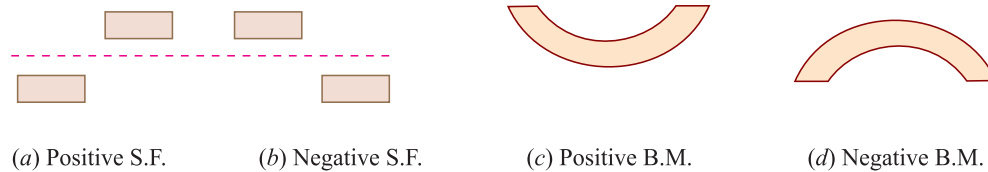

Fig. 13.1
1. Shear Force. We know that as the shear force is the unbalanced vertical force, therefore it tends to slide one portion of the beam, upwards or downwards with respect to the other. The shear force is said to be positive, at a section, when the left hand portion tends to slide downwards or the right hand portion tends to slide upwards shown in Fig. 13.1 (a). Or in other words, all the downward forces to the left of the section cause positive shear and those acting upwards cause negative shear as shown in Fig. 13.1 (a).
Similarly, the shear force, is said to be negative at a section when the left hand portion tends to slide upwards or the right hand portion tends to slide downwards as shown in Fig. 13.1 (b). Or in other words, all the upward forces to the left of the section cause negative shear and those acting downwards cause positive shear as shown in Fig. 13.1 (b).
2. Bending Moment. At sections, where the bending moment, is such that it tends to bend the beam at that point to a curvature having concavity at the top, as shown in Fig. 13.1 (c) is taken as
positive. On the other hand, where the bending moment is such that it tends to bend the beam at that point to a curvature having convexity at the top, as shown in Fig. 13.1 (d) is taken as negative. The positive bending moment is often called sagging moment and negative as hogging moment.